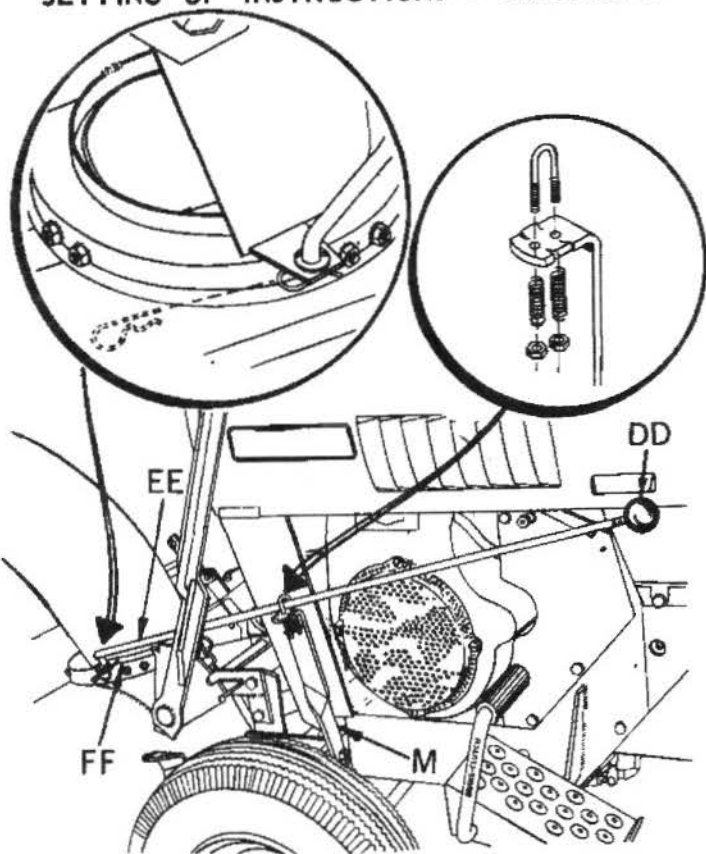

FIG. 13
23. Assemble spout guide rod (EE), to deflector bracket (FF), with a washer on each side of deflector bracket and secure with small retainer spring found in plastic bag.
24. Assemble spout guide rod (EE), See Fig. 13, to spout rod support (M) with U-bolt, two springs and two gripco nuts found in bag. Tighten nuts just tight enough to hold spout guide rod.
25. Screw remaining control knob (DD), on upper end of spout guide rod.